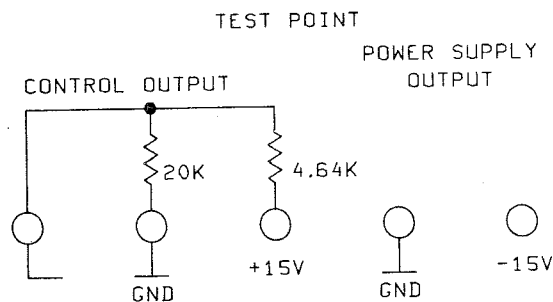

Figure 4-9 Test-Point Rear Panel Configuration
6. Connect a 4.64K resistor and a 20K resistor between +15V and GND. Connect the mid-point of the resistor to the CONTROL OUTPUT terminal (to provide approximately +12V, see Figure 4-9).